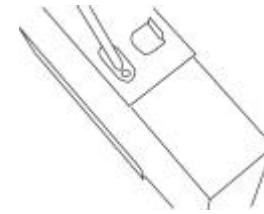

Figure 8
- 4.1) Fasten the CD-ROM on the 3rd hole of the bracket. (See Figure 8)